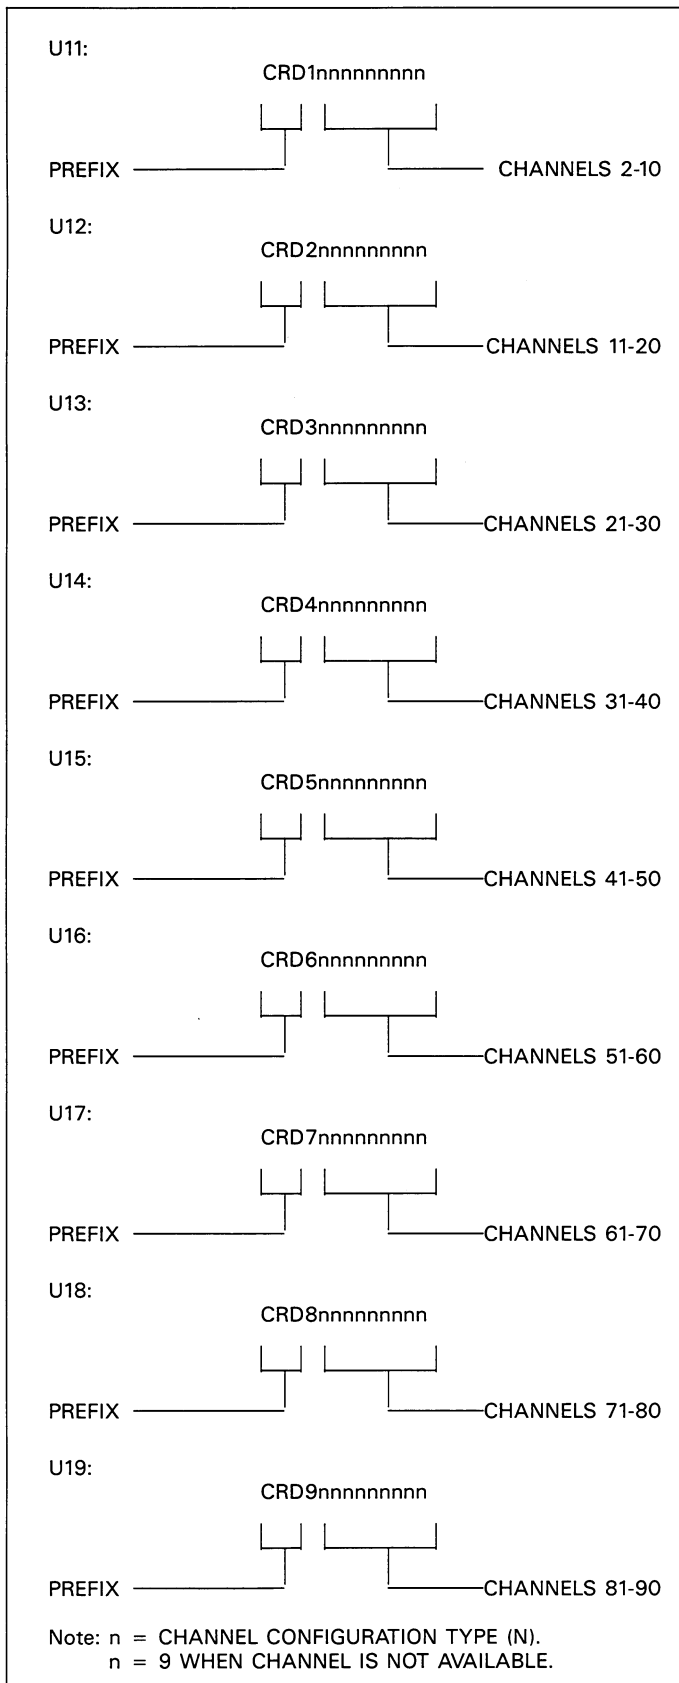

Figure 4-14. U11-U19 Channel Types
The U11 through U19 commands allow access to the channel type of each channel on that scanner card. The format for the channel types that are sent is shown in Figure 4-14. The "n" value for a channel corresponds to the Type (N) command value. "n" values of nine for the channels of a scanner card indicate that the scanner card, along with its channels, are physically unavailable.